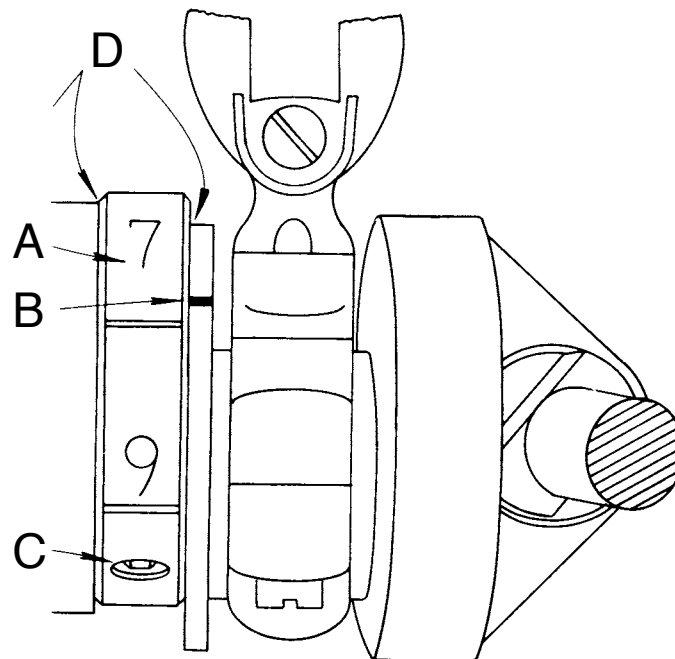

FIGURE 5
3. The numbered disc (*item "A" in Figure 5*) is called the stitch regulating collar. The position of this collar with respect to a notch on the rim of the feed eccentric (*item "B" in Figure 5*) determines the length of stitch. Before changing the length of the stitch, note the original setting of the notch with respect to the stitch regulating collar.
4. Loosen the screw (*item "C" in Figure 5*) which locks the stitch regulating collar in position. Insert a screwdriver blade in the split on the stitch regulating collar which will be found directly beneath the locking screw. While holding the screwdriver firmly in position, move the handwheel until the notch on the rim of the feed eccentric is lined up with the desired number on the stitch regulating collar. To increase the length of stitch from the original setting, move the notch to a higher number. To decrease the length of stitch from the original setting, move the notch to a lower number.
7. After completing the adjustment, thoroughly oil the feed lever and eccentric, particularly in the area indicated by "D" in **Figure 5**; and replace the side cover.